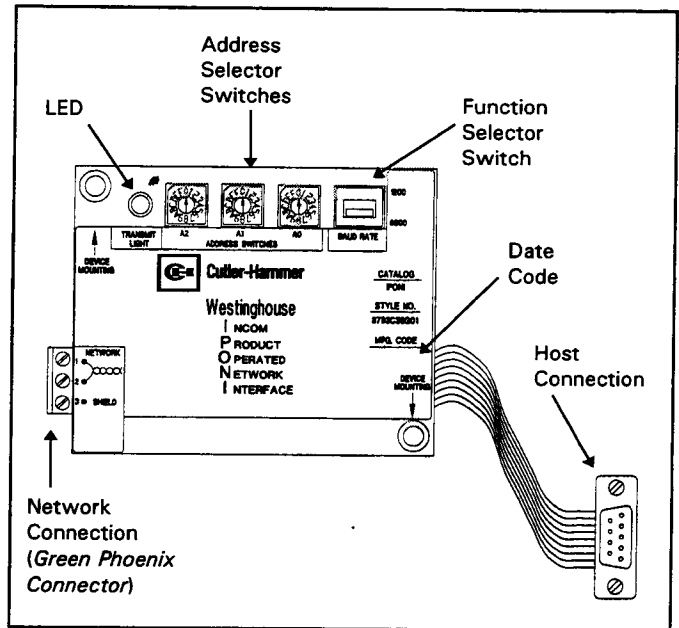

Figure 1 The Cutler-Hammer I-PONI
The function selector switch is located on the front of the I-PONI (see figure 1). The switch enables the user to select the IMPACC baud rate between one of two options:
unique address to each product in the INCOM network (see figure 1). A light emitting diode (LED), located to the left of the three address switches, flashes while the I-PONI is transmitting information into the INCOM network. The LED does not light while the I-PONI is receiving messages (see figure 1).
- Terminals 1 & 2 on the Network Connection (see figure 1 & 8) are for the twisted pair connection, while terminal 3 is for the shield. (Note: It is recommended that ferrules be used to dress the ends of the cable leads to minimize frayed connections.)
The user should not attempt to service this equipment. The Phoenix Connector (see figure 1) is the only replacement part available for the I-PONI (C-H Part Number 5281C91H49 - Phoenix Contact # MSTB 2.5/3-ST-5.08) Please contact your local Cutler-Hammer representative or the Cutler-Hammer Advanced Product Support Center for service information, additional questions regarding the I-PONI, or any other IQ/IMPACC product.